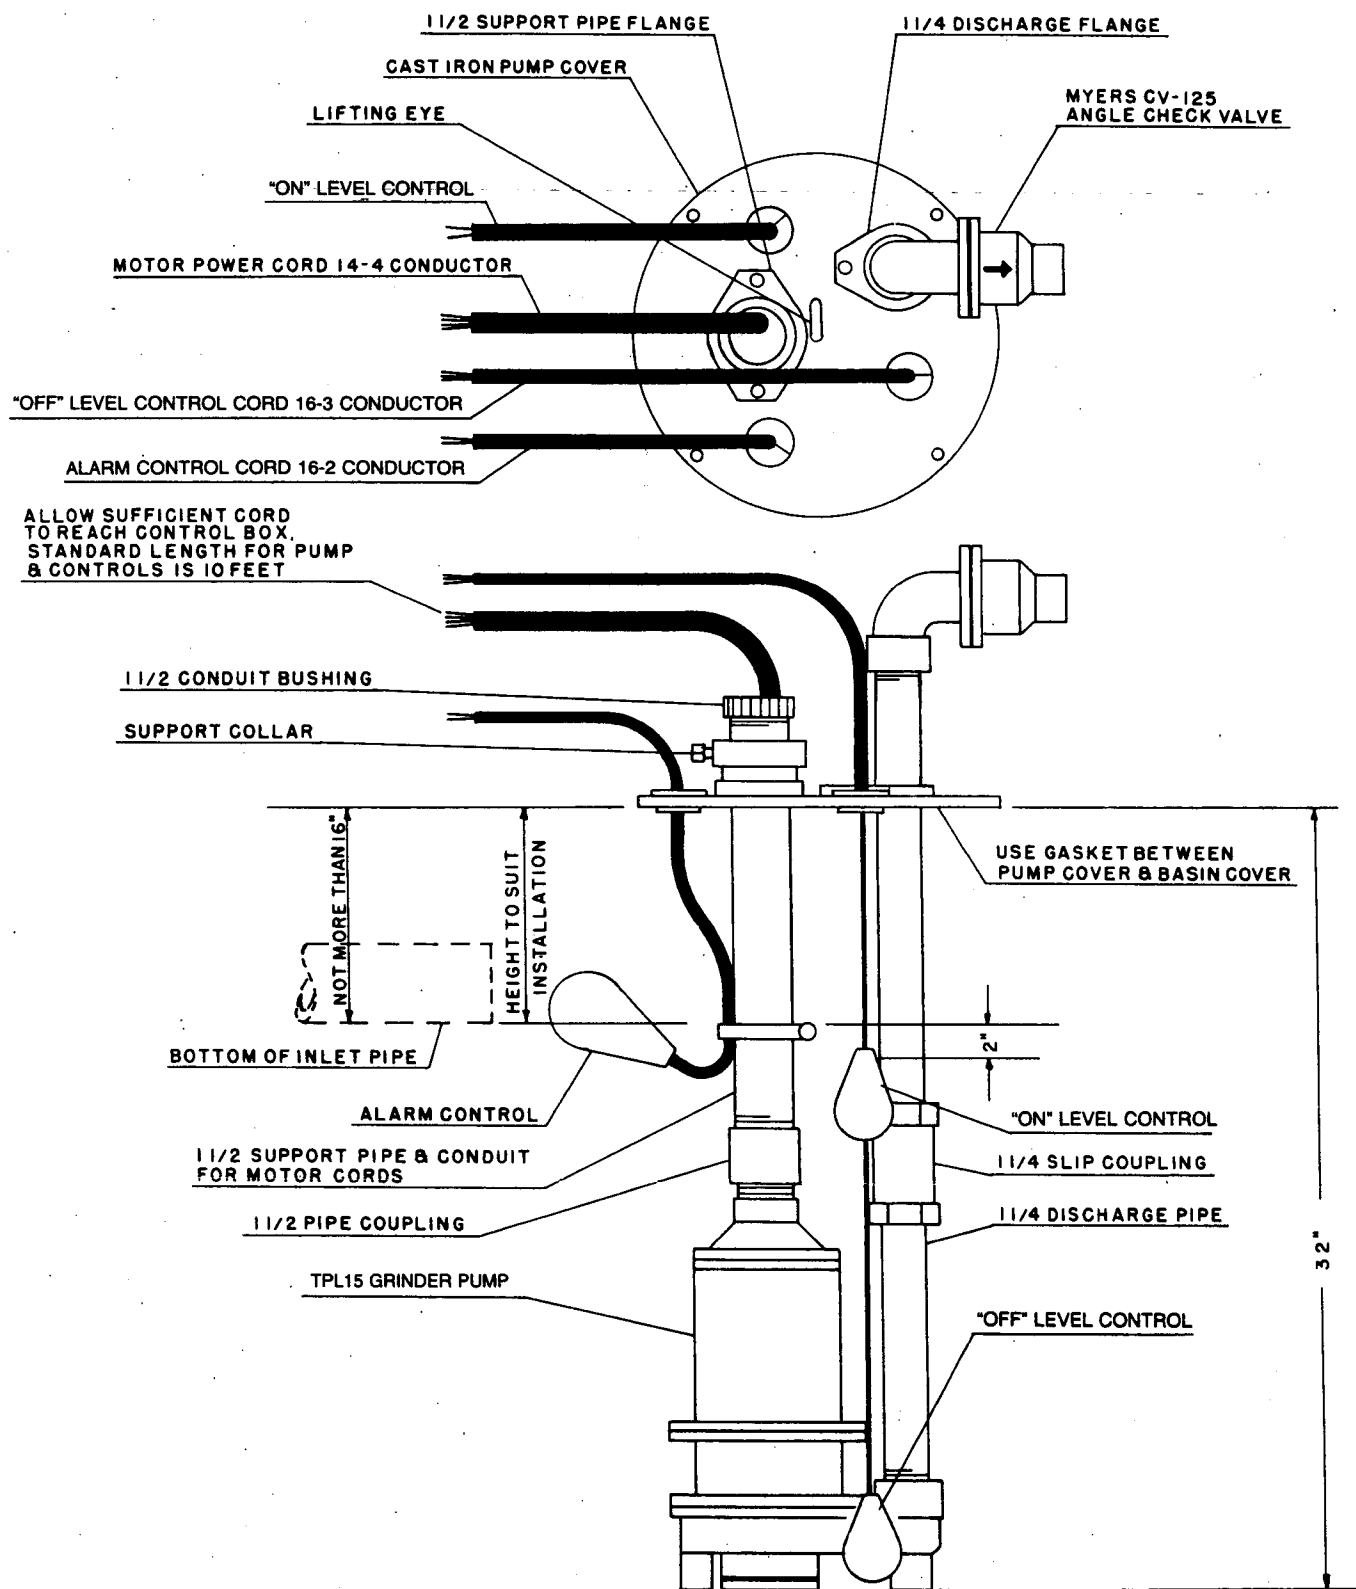

FIG. 3
4. Place pump cover over pipes and tighten flanges to hold in place at height shown on Figure 3.
2. Use template furnished with inlet flange to cut hole in basin and drill for mounting bolts. Mount inlet flange at height required for installation, but not lower than shown on Figure 3.